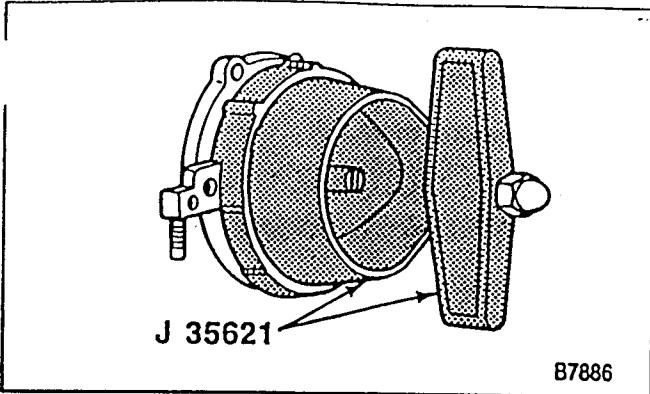

Figure 73—Installing the Crankshaft Rear Oil Seal (5.0L and 5.7L Engines)
- Screws (80) and nuts (81) to 15 N.m (11 lbs. ft.).
4. Crankshaft rear oil seal (figure 73).